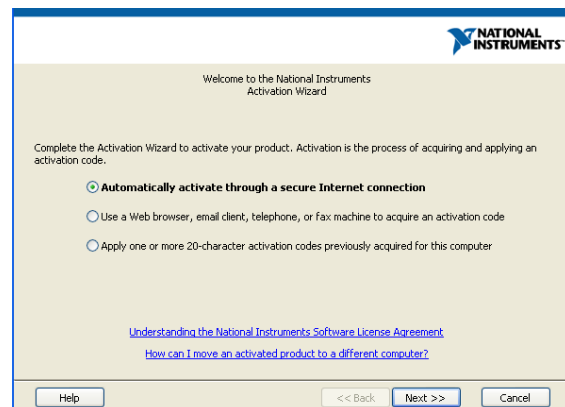

Figure 6. NI activation wizard
- 8) Activate the National Instruments product through a secure internet connection (**Figure 6**) and click *NEXT*.